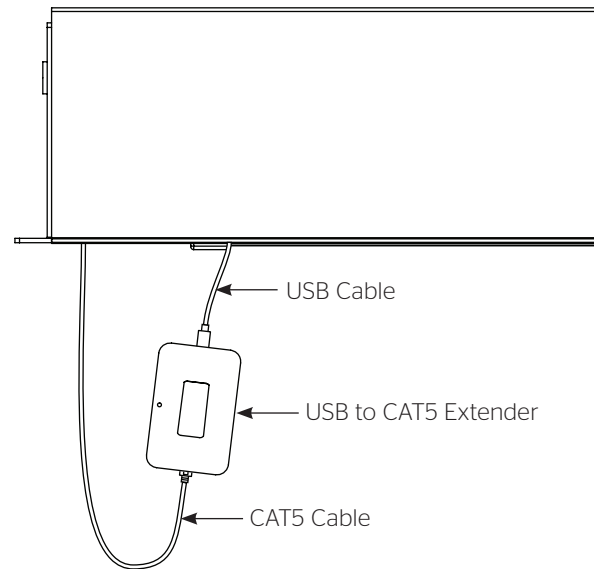

Figure 20
10. Remove the USB to CAT5 extender labeled "Remote" from the shipping carton. At the motor end of the case, attach the USB cable coming from the ViewShare screen and roller assembly. On the other end of the USB to CAT5 extender, attach the CAT5 cable that was run through the circular knockout. Remove the non-adhesive side of the tape and carefully allow the USB to CAT5 extender to hang freely (Figure 20).